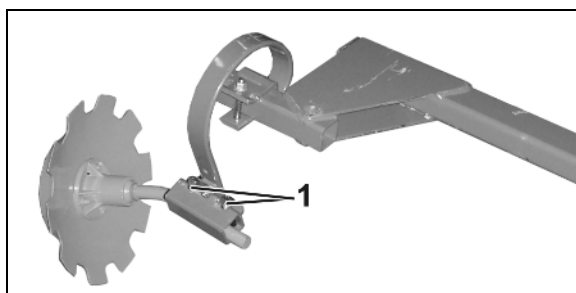

Fig. 99
1. Slacken the two bolts (Fig. 99/2)
3. Retighten bolts (Fig. 99/2) firmly.